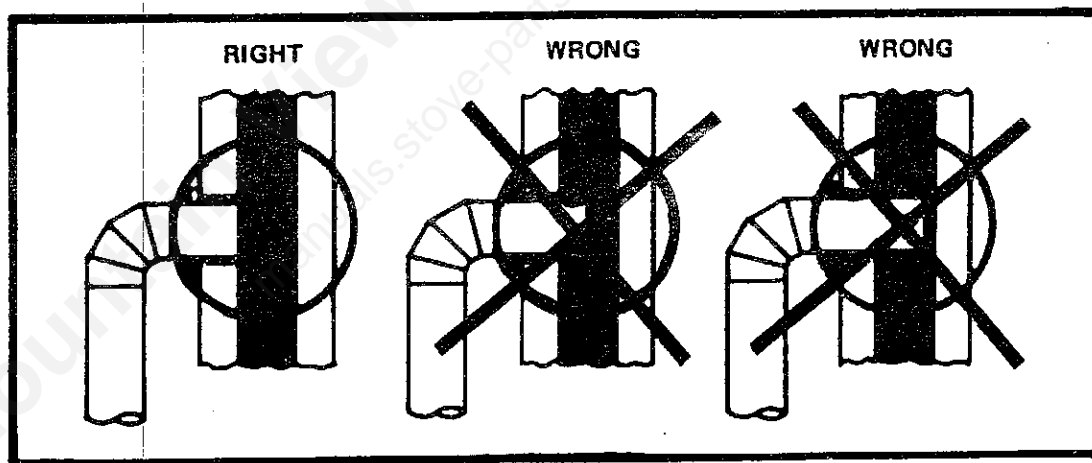

Fig. 8
4. The pipe cannot extend into the chimney flue (Fig. 8).
1. The connection pipe may be pushed into the chimney too far, stopping the draft (Fig.8).